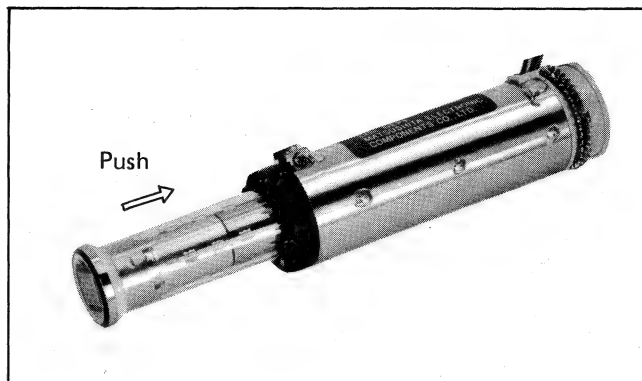

Fig. 13
- 3-12. Push the pick-up tube in the D.Y assembly as far as it will go...using lens cleaning tissue paper to keep the face palte spotless (see Fig. 13).